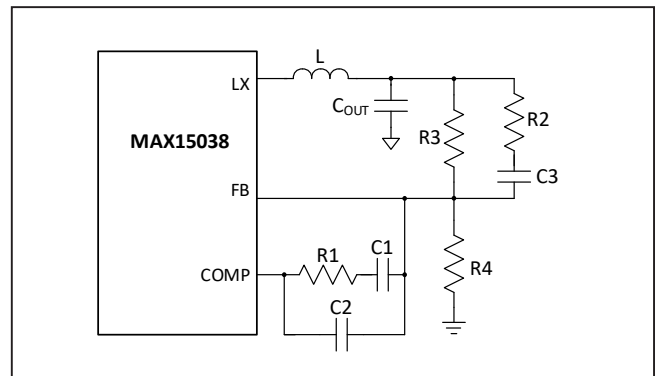

Figure 4. MAX15038 compensation network.
The output voltage of the converter can be set by an external output resistor-divider which comprises R_3 and R_4 (Figure 4). When externally programming the MAX15038, the output voltage is determined by:
Since the ESR of ceramic capacitors is typically very low, the frequency of the associated transfer function zero is higher than the unity-gain crossover frequency, f_C, and the zero cannot be used to compensate for the double pole created by the output filtering inductor and capacitor. The double pole produces a gain drop of 40dB/decade and a phase shift of 180°. The compensation network error amplifier must compensate for this gain drop and phase shift to achieve a stable high-bandwidth closed-loop system. Therefore, a Type III compensation as shown in Figure 4 is required. Type III compensation possesses three poles and two zeros with the first pole, f_{P1_EA}, located at zero frequency (DC). Locations of other poles and zeros of the Type III compensation are given by: